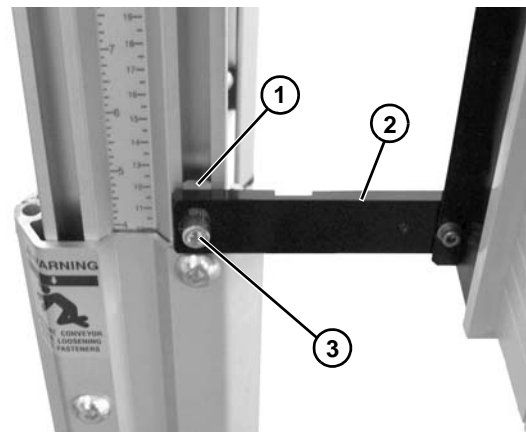

Figure 21
2. Install T-bar (**Figure 21, item 1**) into stand leg T-slot. Attach controller lower mounting bar (**Figure 21, item 2**) with screw (**Figure 21, item 3**).